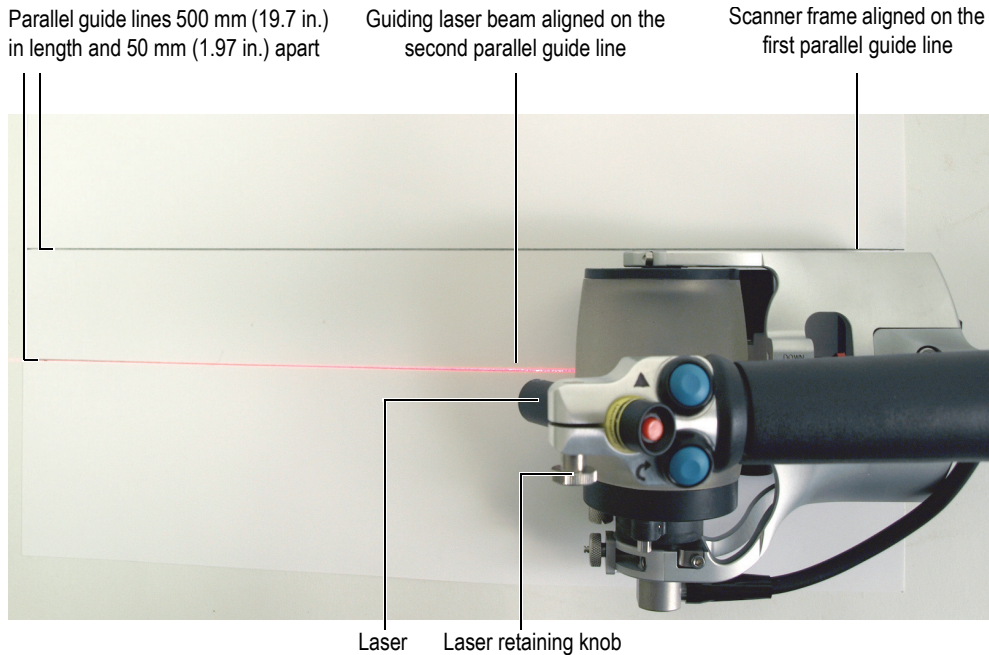

Figure 6-43 Aligning the guiding laser beam
1. On a flat surface, draw two parallel guide lines, 500 mm (19.7 in.) in length and 50 mm (1.97 in.) apart (Figure 6-43 on page 123).